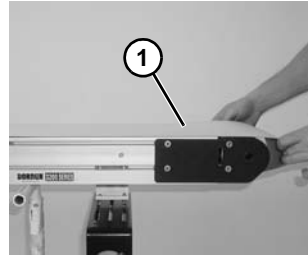

**Figure 58**
1. Ensure temporary support stands (**Figure 58, item 1**) are placed at both ends of the conveyor.
3. Install belt (**Figure 58, item 2**) on conveyor. Lift conveyor slightly to avoid pinching belt on temporary support stands.